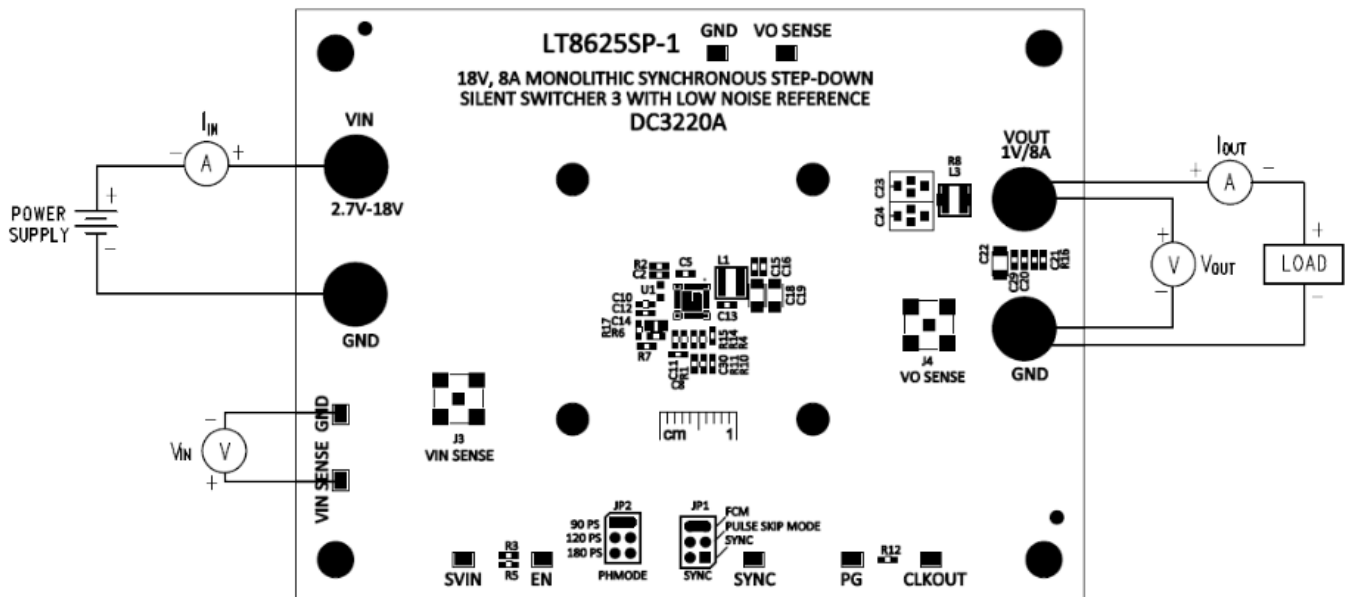

Figure 5. Proper Measurement Equipment Setup
1. Refer to Figure 5 for equipment setup.
Demonstration circuit 3220A is easy to set up to evaluate the performance of LT8625SP-1. Please refer to Figure 5 for proper equipment setup and follow the test procedures below: